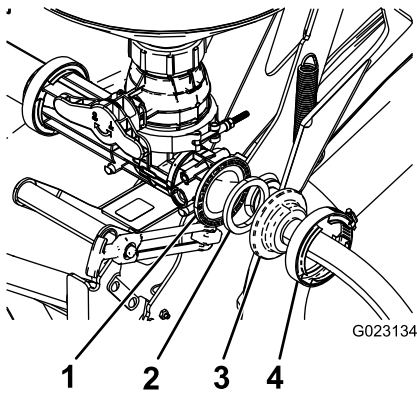

Figure 20
4. Secure the end of the supply hose without a bulkhead to the rear opening on the eductor valve using the gasket and hose clamp (Figure 20).